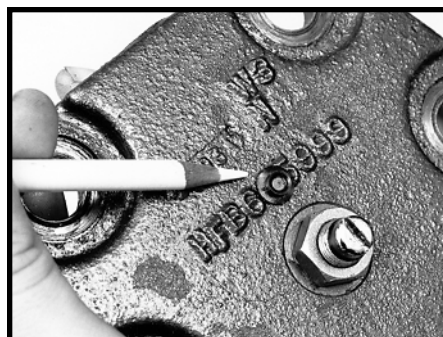

Figure 144
37. Press the new vent plug (60) into the hole provided in the side cover (58) until the plug is flush. SEE FIGURE 144.